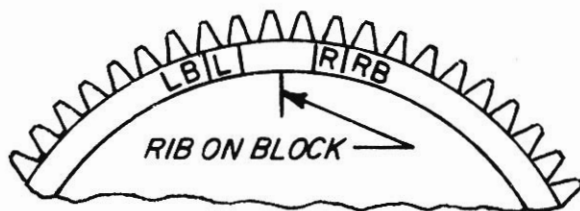

Figure 5-2. Timing Marks - 6 cyl. 1200 Series
(1) Remove a spark plug from No. 1 cylinder and place a thumb over the spark plug hole. Rotate the crankshaft in direction of normal rotation until the compression stroke is reached, which is indicated by a positive pressure inside the cylinder tending to push the thumb off the spark plug hole. Continue rotating the crankshaft until the advance timing mark on the front face of the starter ring gear is in alignment with the small hole located at the two o'clock position on the front face of the starter housing. (Refer to Specification chapter or to engine name-plate for designated number of degrees of spark advance.) At this point, the engine is ready for assembly of the magnetos.
(2) *Single magneto* - Remove the inspection plugs from both magnetos and turn the drive shaft in direction of normal rotation until (-20 and -200 series) the first painted chamfered tooth on the distributor gear is aligned in the center of the inspection window (-1200 series) the applicable timing mark on the distributor gear is approximately aligned with the mark on the distributor block. See figure 5-2. Being sure the gear does not move from this position, install gaskets and magnetos on the engine. Note that an adapter is used with all magnetos. Secure with (clamps on -1200 series) washers and nuts; tighten only finger tight.